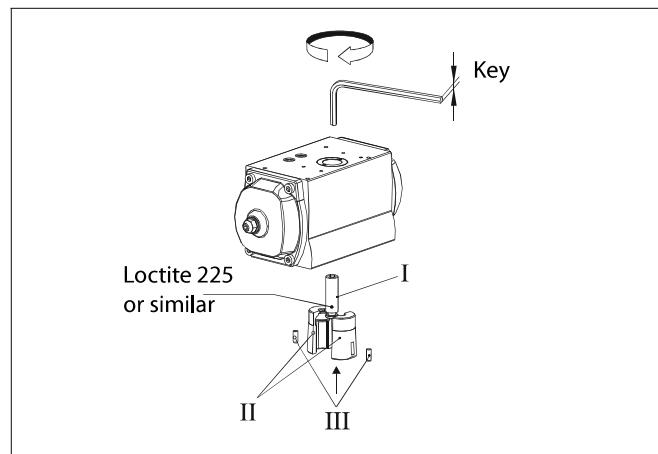
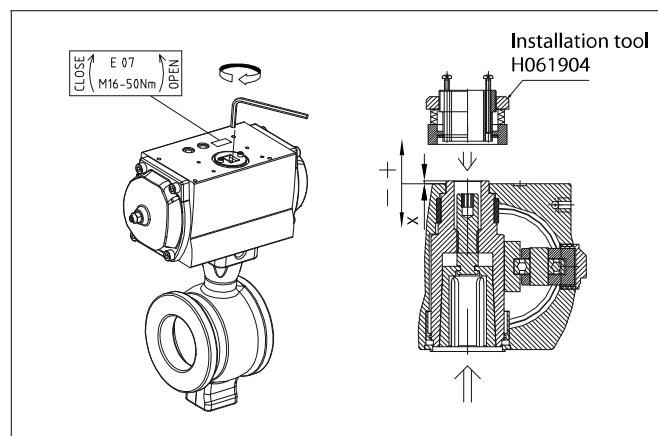

Fig. 38 Cone bushing installation
Fig. 39 Tightening of the cone bushing
- Mount the bushing and the tightening screw from the mounting interface side of the actuator, according to Fig. 38. Insert cylindrical pins (III) in the bushing slots, these must be directed into the corresponding slots in the actuator during tightening. Before the installation of the bushing and the tightening screw, remove impurities such as old threadlocking material from the threads of the tightening screw, and apply Loctite 225 or similar threadlock carefully to the threads, as shown in Fig. 38. Turn the tightening screw from inside the actuator shaft using a suitable hex key, Fig. 39.
- The actuator construction allows axial movement of the drive shaft. Check, before the screw is tightened, that the drive shaft is in the upper position of its axial movement, which is its normal position (the mounting position shown in Fig. 39). Checking is important, as the actuator shaft drops down slightly when the screw is tightened. The drive shaft axial movement can be observed and measured before attachment to a valve. The actuator drive shaft is in the upper position when its upper surface conforms to Table 4, see also Fig. 39.
- The drive shaft will automatically find its correct position if the installation tool H061904 (see Fig. 39) is used. The installation tool is attached instead of the coupling plate using M4 screws with the drive shaft in lower position (before the valve is installed). Tighten the nut of the tool in such a way that the tool pulls the drive shaft to the uppermost position. The position may be checked from the side of the tool.
- Install the actuator on the valve and attach the valve mounting screws loosely by hand. Then tighten the tightening screw (I) according to Table 4. The required torque is also marked on a plate close to the drive shaft on the actuator housing. The installation tool is removed, and the coupling plate is reattached. Finally, tighten the valve mounting screws.